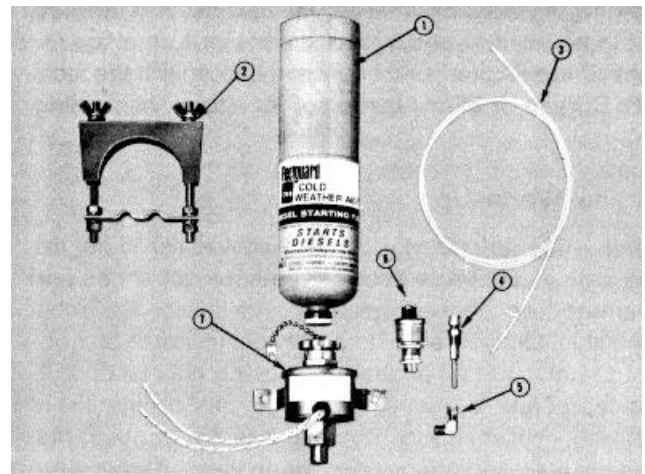

Fig. 1-12(OM1008L). Electrically operated valve
The electrically operated valve, Fig. 1-12, includes the valve body (7), 90 degree elbow (5), clamp (2), push button switch (6), and nylon tube (3). The thermostat is mounted on the engine exhaust manifold and cuts out the valve by sensing manifold heat when the engine is running. See parts catalog for fuel cylinder (1) and fuel atomizer fittings (4). These fittings must be ordered separately, as required.